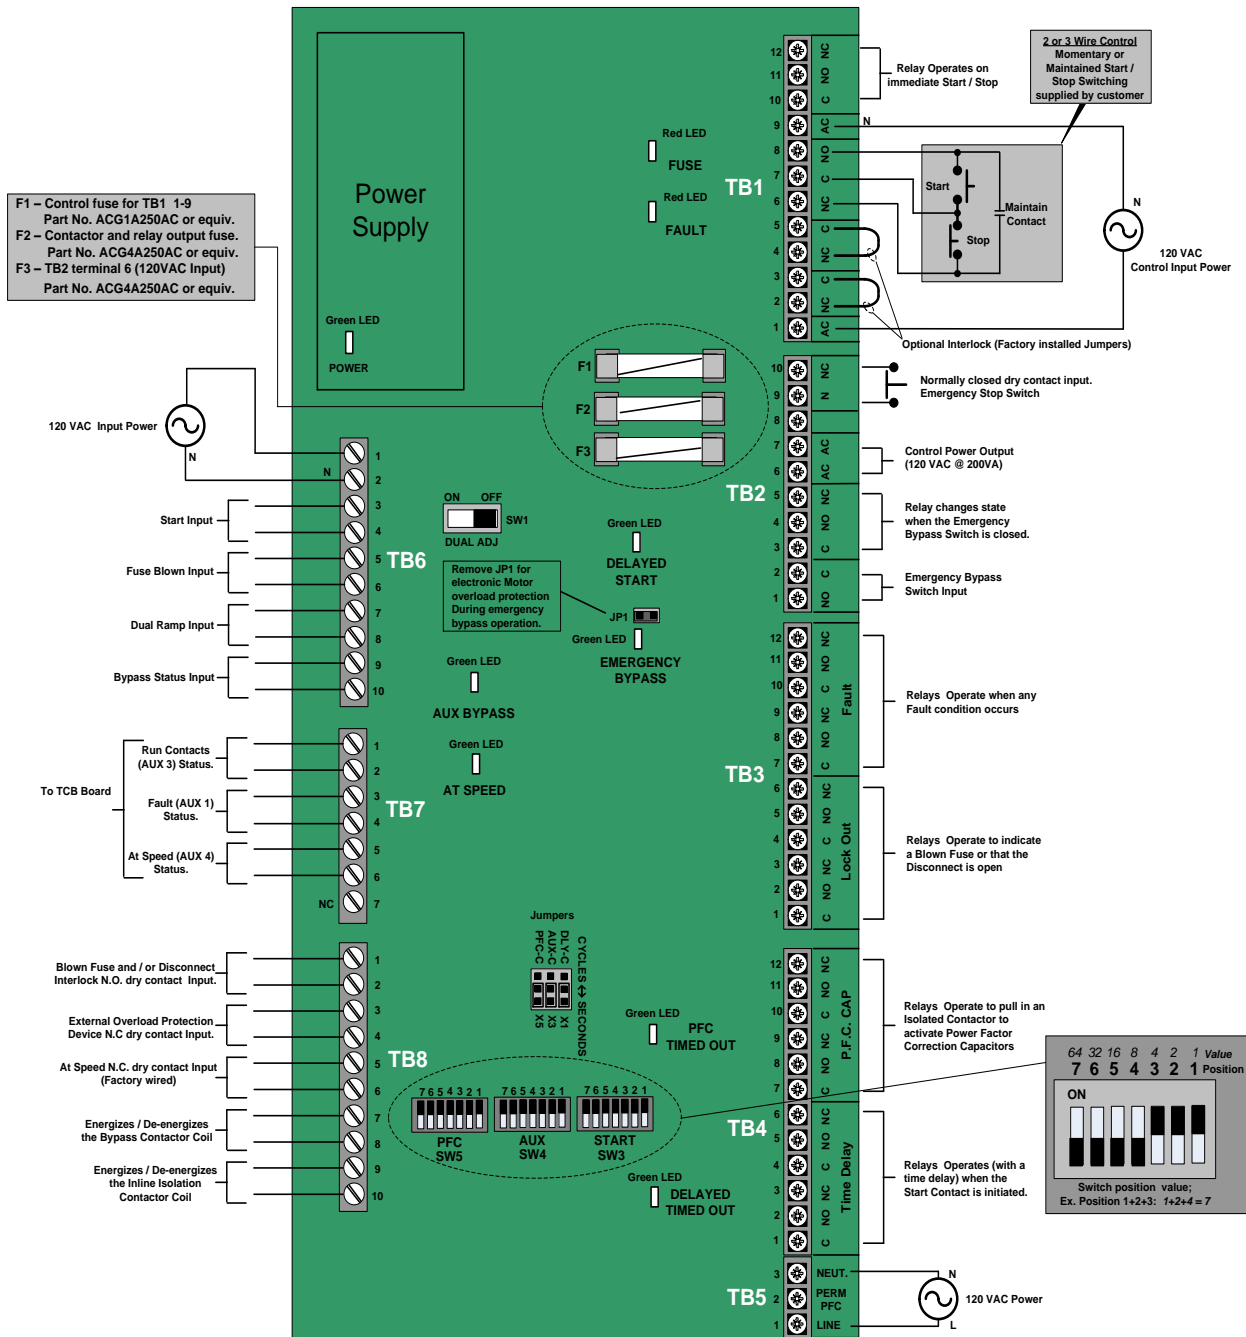

FIG. 2.2.1 TCB Terminal and Control Board
- **TCB (Terminal and Control Board)** is the user connection interface board. This board contains the user terminal blocks, output relays (duplicated), inputs and control power connections. It also contains additional timed relays for interfacing with Power Factor Correction contactors (if used) and other external devices. Please note Power Factor Capacitor warnings in **Section 2.1.**; also see **FIG. 2.2.1.**
The TCB board, FIG. 2.2.1 shown below, provides interconnections between the main power and CPU boards and the customer's control logic connections. It is a 120 VAC control board with several auxiliary dry contacts, built-in time delay circuits and an emergency bypass function. It also controls the inline isolation and bypass contactor and provides provisions for shutdown interlocks. (See **Section 2.2.2** for terminal designations and descriptions)